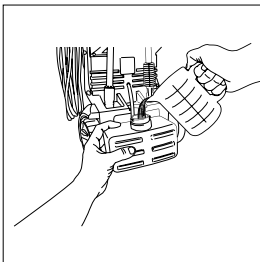
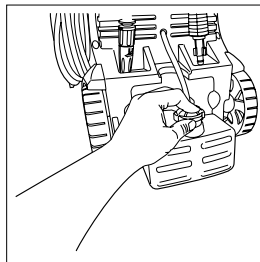

Fig.11
Fig.12
- When using the detergent, fill it with a properly formulated detergent or cleaner with water ratio according to instructions on the container (Fig. 11). The detergent tank comes with a straw which is fitted into the screw-on top. If you don't see the straw, look inside the tank and attach it to the screw-on top (Fig. 12).